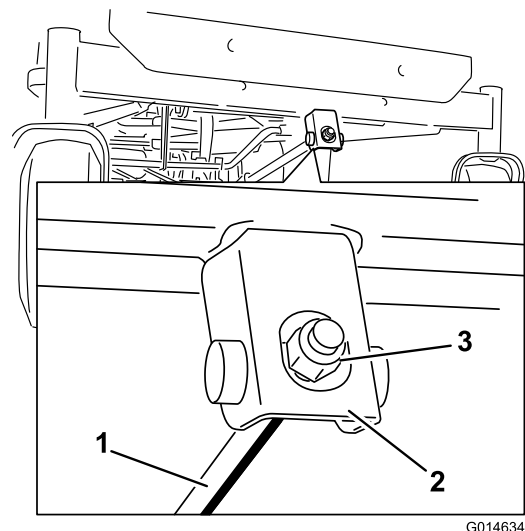

Figure 52
6. To adjust the front-to-rear blade slope, rotate the adjustment nut in the front of the mower (Figure 52).